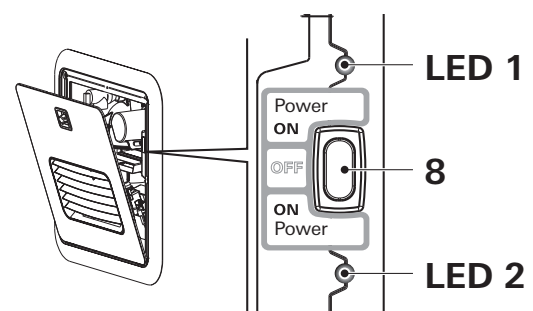

Fig. 8
2. To switch on the appliance, switch the POWER switch (Fig. 8 – 8) to one of the two “ON” positions.
- When the green power ON LED 1 (Fig. 8 – LED 1) is lit, the appliance is switched on.
- If the red error code LED 2 (Fig. 8 – LED 2) is lit / flashes, there is a fault or warning. (refer to “APPENDIX A – Error Codes” on Page 27).
3. Switch off the appliance at the POWER switch (Fig. 8).
- The green Power-ON LED 1 (Fig. 8) extinguishes.